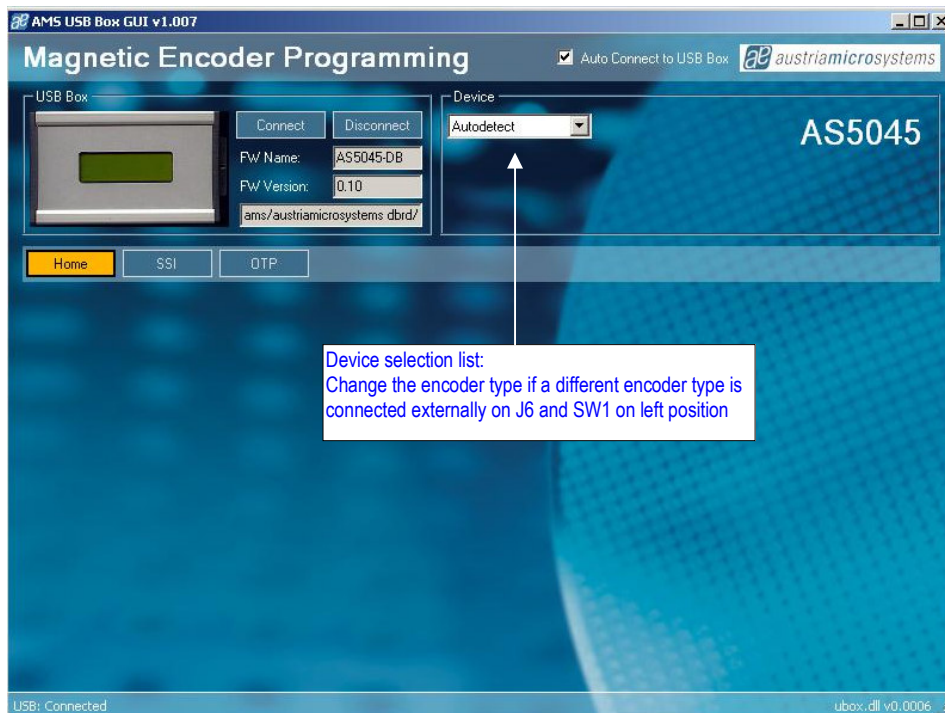

Figure 4: AS5000 GUI has detected the AS5045 Demoboard
- If the GUI is used for operation, additional devices AS5040, AS5140, AS5043 and AS5143 can be connected to J6 and evaluated. In that case, the correct encoder must be selected instead of "Autoselect" in the Device list of the PC software, see chapter 4.2 figure 4.
By selecting the SSI (serial protocol for AS5040, AS5140, AS5043, AS5143, AS5045, AS5145A/B) tab, the real time information of the angular position and the status bits are displayed. See figure 4.